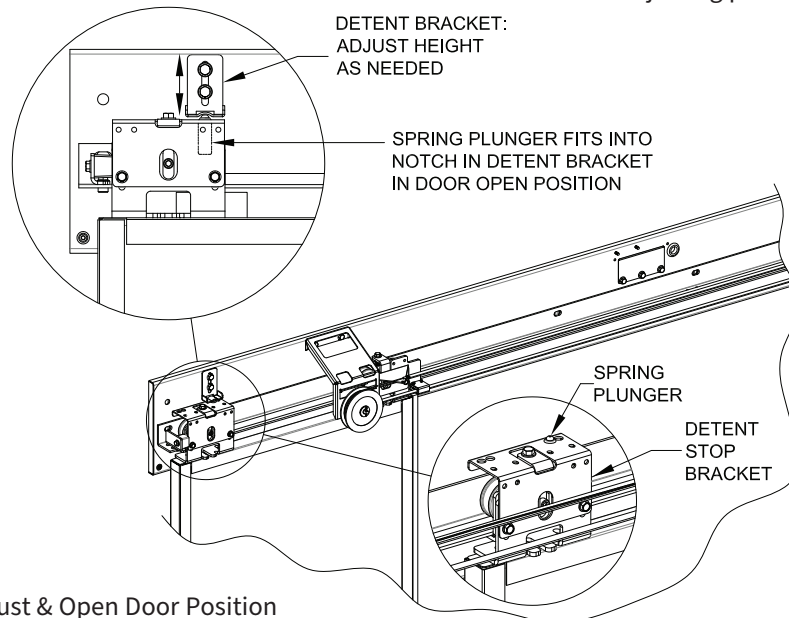

Figure 12: Detent Adjust & Open Door Position
1. A spring plunger is installed in the detent/stop bracket on the trail edge trolley. This plunger fits into the notch in the detent bracket, mounted on the header, and locks the door in the open position (see Fig. 12).